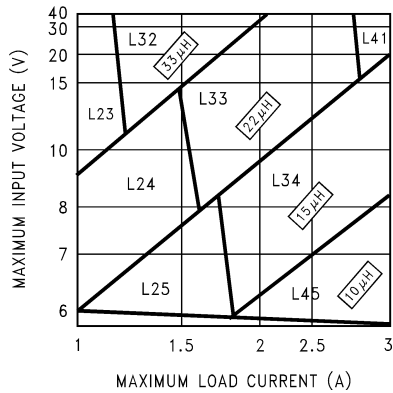
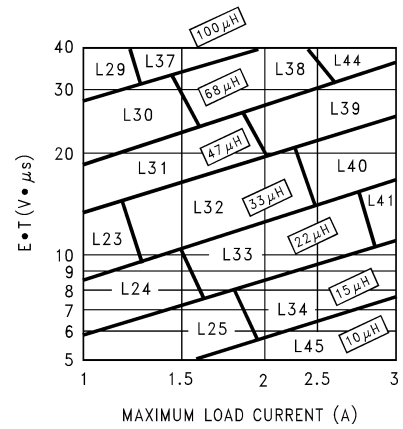

Figure 18. LM2673-3.3
Figure 21. LM2673-ADJ
Step 3: Determine the inductor required by using one of the four nomographs, Figure 18 through Figure 21. Table 1 provides a specific manufacturer and part number for the inductor.
Step 5: Determine an input capacitor from Table 6 and Table 9 for fixed output voltage applications. Use Table 3 or Table 4 to find the specific capacitor type. For adjustable output circuits select a capacitor from Table 3 or Table 4 with a sufficient working voltage (WV) rating greater than $V_{in\ max}$, and an rms current rating greater than one-half the maximum load current (2 or more capacitors in parallel may be required).
Step 3: Use the nomograph for the 3.3V device, Figure 18. The intersection of the 16V horizontal line ($V_{in\ max}$) and the 2.5A vertical line ($I_{load\ max}$) indicates that L33, a 22 μ H inductor, is required.
Step 3: To use the nomograph for the adjustable device, Figure 21, requires a calculation of the inductor Volt•microsecond constant (E•T expressed in V• μ S) from the following formula:
Using Figure 21, the intersection of 27V• μ S horizontally and the 2A vertical line ($I_{load\ max}$) indicates that L38, a 68 μ H inductor, should be used.
When using the adjustable device in low voltage applications (less than 3V output), if the nomograph, Figure 21, selects an inductance of 22μH or less, Table 12 and Table 13 do not provide an output capacitor solution. With these conditions the number of output capacitors required for stable operation becomes impractical. It is recommended to use either a 33μH or 47μH inductor and the output capacitors from Table 12 or Table 13.